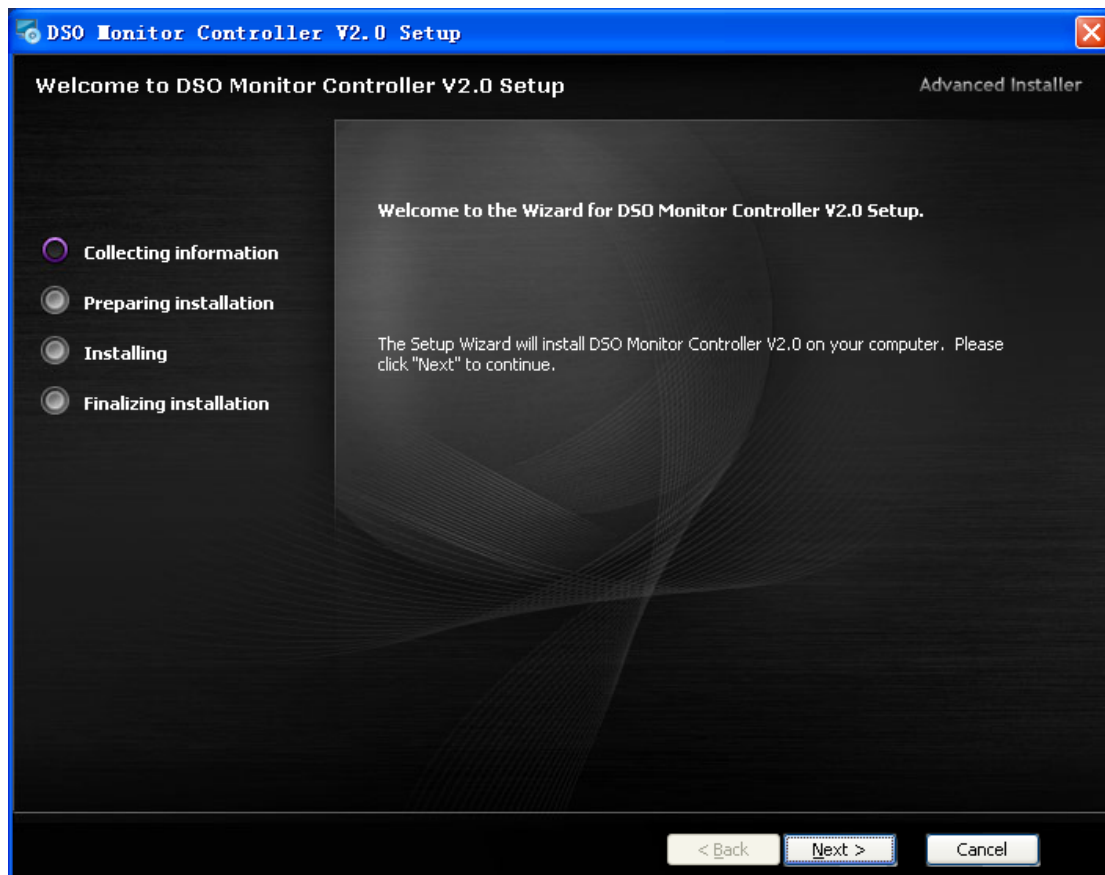
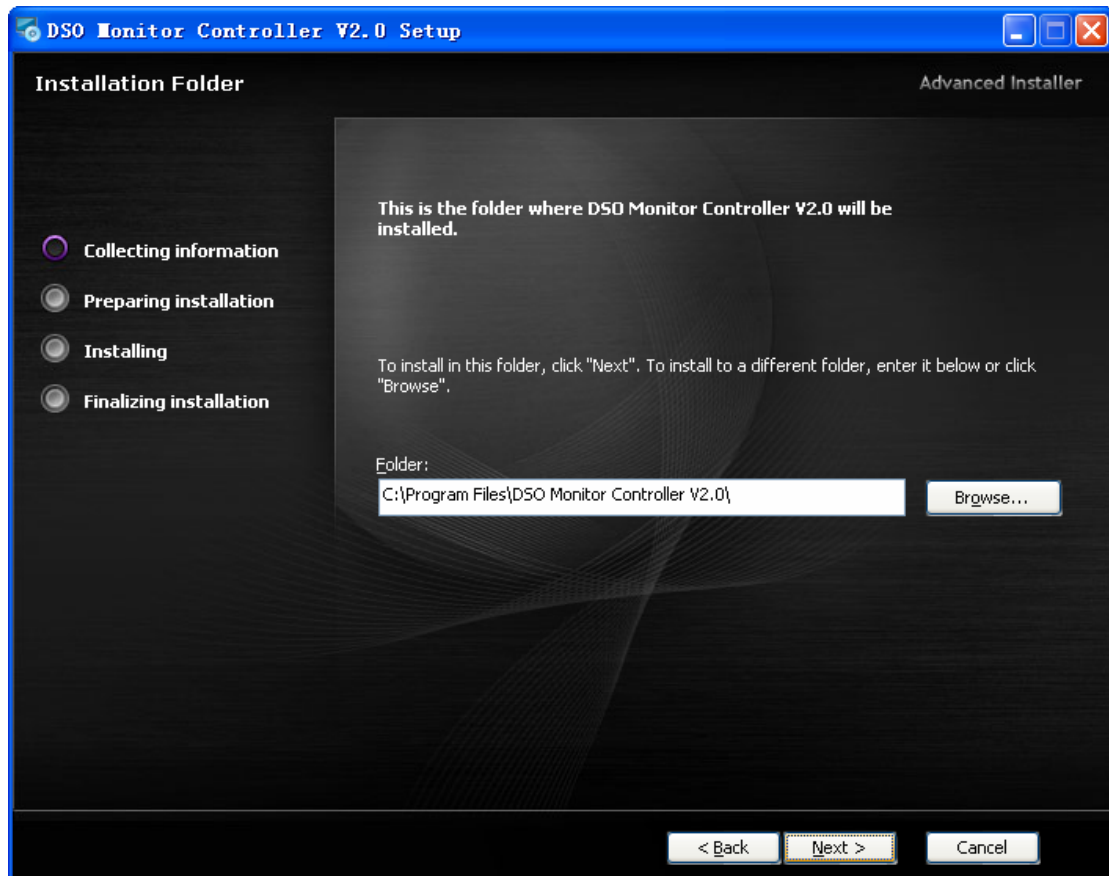
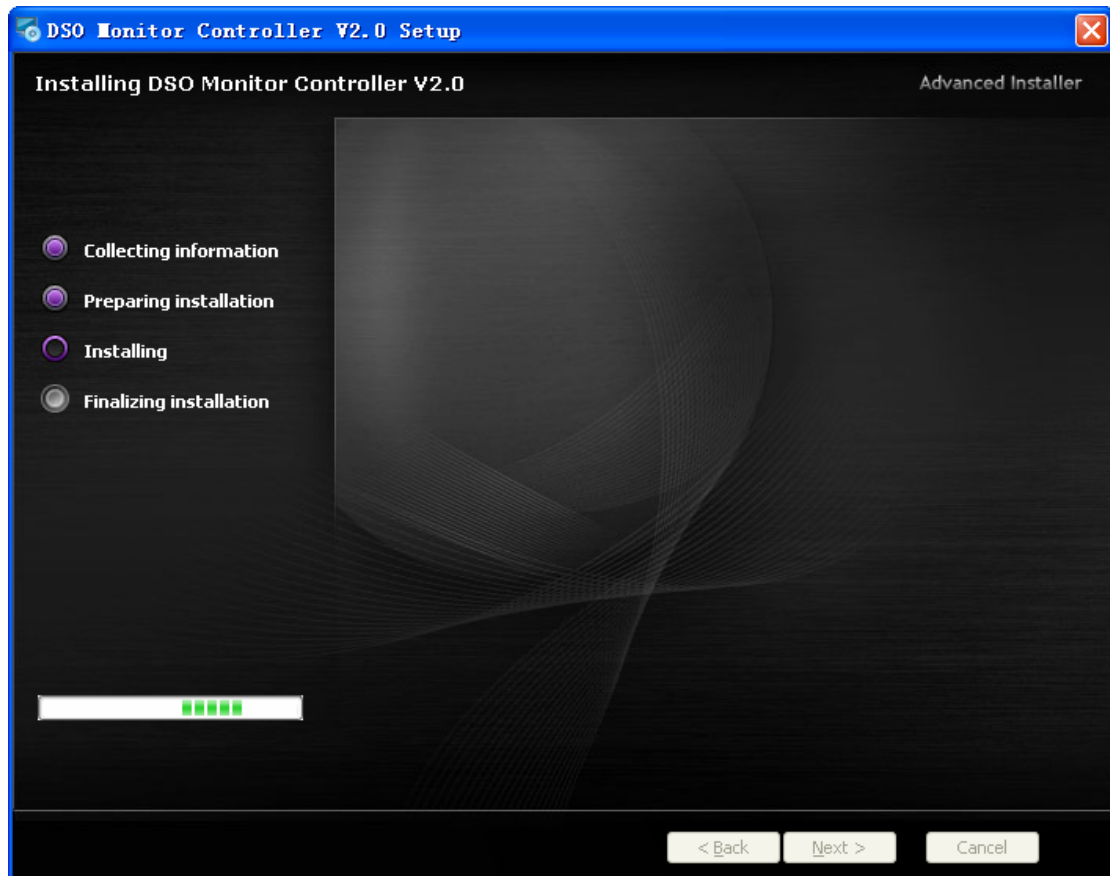

Fig.1-3
Fig.1-4
Fig.1-5
The system will then enter the installation wizard as shown in Fig.1-3.
Step 3: Read the prompt in Fig.1-3 and click Next (N) to enter the next step. See Fig.1-4.
Step 4: In Fig.1-4, click Change (H), appoint an installation path for the software and click Next (N); or click Next (N) directly, use the default path and click Install to enter the automatic program installation interface. See Fig.1-5.